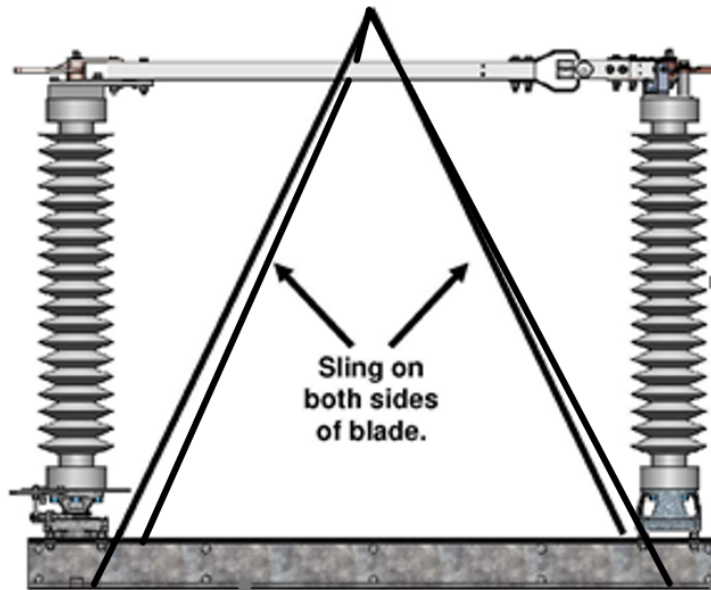

Figure 6: Sling Attachment
- 1.2.1. Alternately (and easier) each pole may be assembled on the ground and hoisted to the structure as a complete unit. **CAUTION:** To prevent overturning during assembly, the switch base must be bolted to a level, stable platform (e.g. metal sawhorses). **CAUTION:** Lift fully assembled pole unit by the base only. **DO NOT** lift the pole unit by the live parts. Refer to **Figure 1** and **Figure 6**.
- 3.4. Lift the assembled switch by the switch base only. Refer to **Figure 6**.